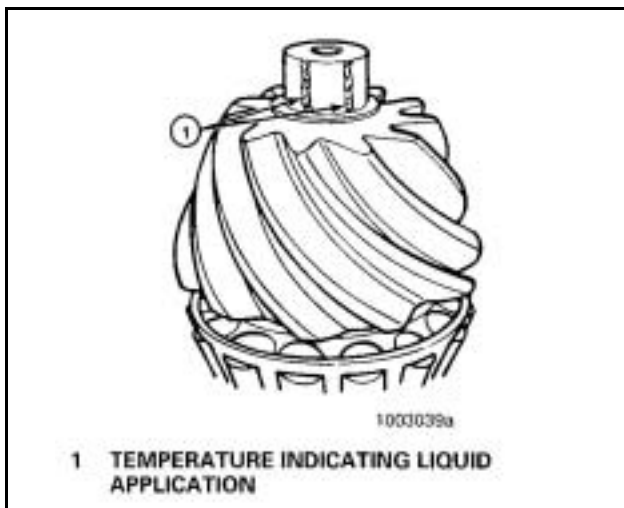

Figure 58
- a. Apply two stripes of temperature indicating liquid on the pinion stem from the top to the bottom. **Figure 58.** Apply a green stripe to indicate 400 degrees F (205 degrees C) and a blue stripe to indicate 500 degrees F (260 degrees C).